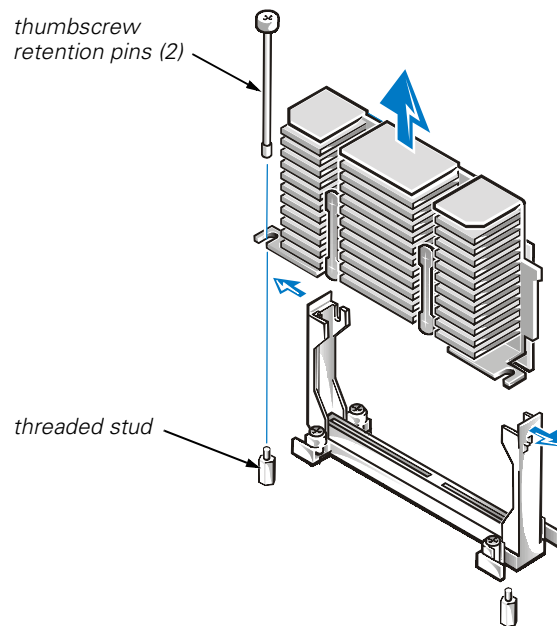

Figure 1-2. Removing an SEC Cartridge and Heat Sink
- c. Deflect the tab on the other end of the guide bracket to disengage the tab on the heat sink, and then lift the cartridge and heat sink assembly away from the guide bracket assembly (see Figure 1-2).